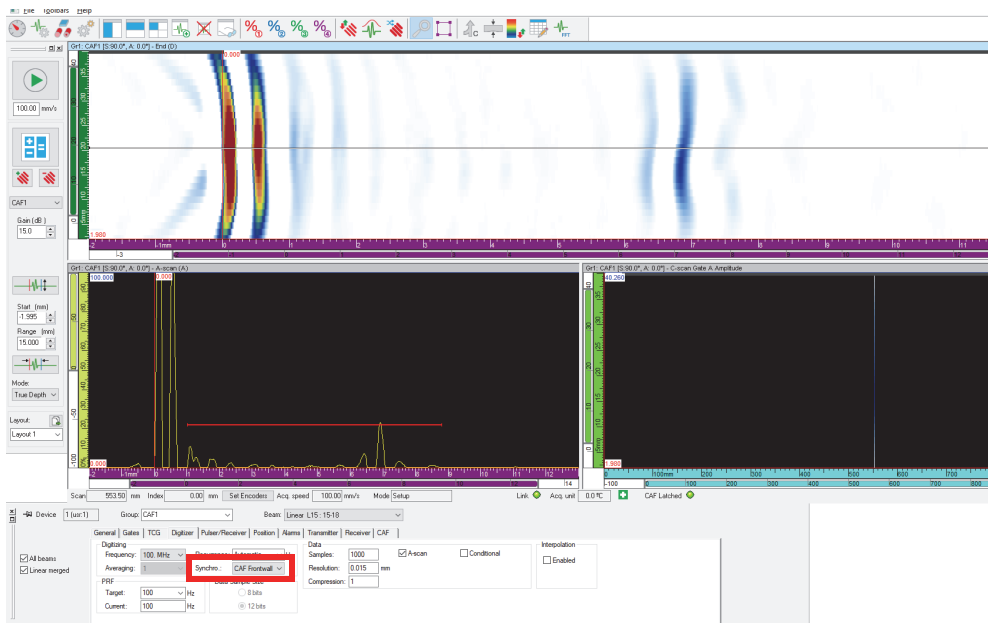

Figure 4-61 Synchronized CAF
9. Select **UT Settings > Digitizer**, synchronize (Figure 4-61 on page 154) the CAF group with the algorithm, and then set the UT range.